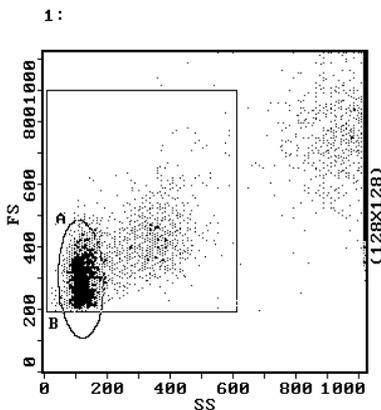

Figure 1: Forward Scatter vs. Side Scatter Histogram
3. Create a two-parameter Forward Scatter vs. Side Scatter histogram with a region (A) set around the lymphocyte population, and a second, larger region (B) set around the Stem-Trol Control Cells population (see Figure 1).
Figure 1 is a two-parameter histogram of Forward Scatter vs. Side Scatter representing lysed, normal, fresh whole blood premixed with Stem-Trol Control Cells (Ref. IM3632), then stained with Stem-Comp Reagent (Ref. IM3631). Acquisition is performed on a COULTER EPICS XL/XL-MCL flow cytometer. Analysis is performed with System II Software (Version 3.0).